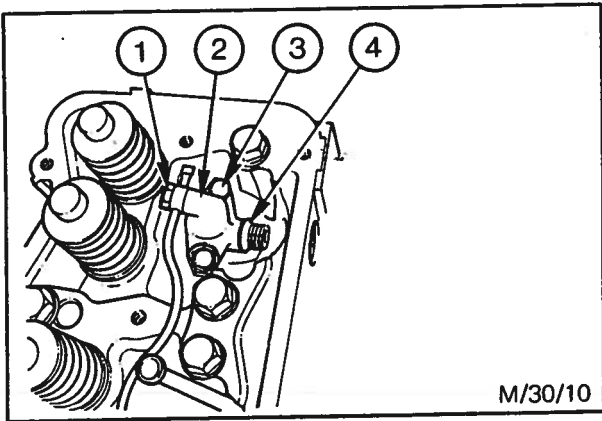

Fig. 77 - Replacing Injectors
- 102. Insert the injectors into the cylinder head and fit but do not tighten the securing bolts - see Fig. 77.